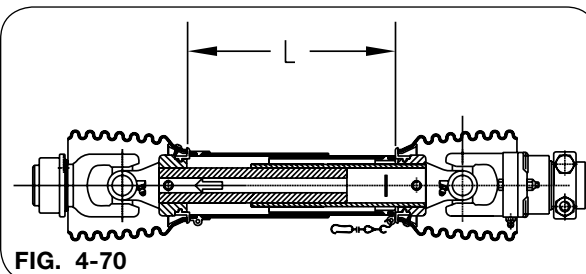

FIG. 4-70
1. Fully collapse PTO shaft and measure length "L" (Fig. 4-70).